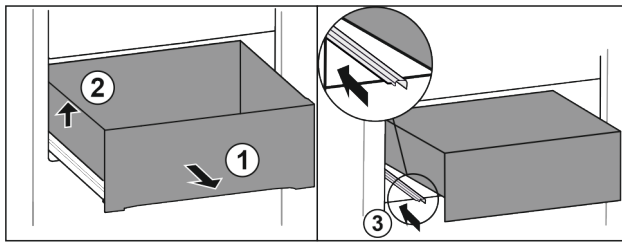

Fig. 79
- Pull out drawer as far as it will go. Fig. 79 (1)
- Lift drawer on the left. Fig. 79 (2)
- Insert left rail. Fig. 79 (3)